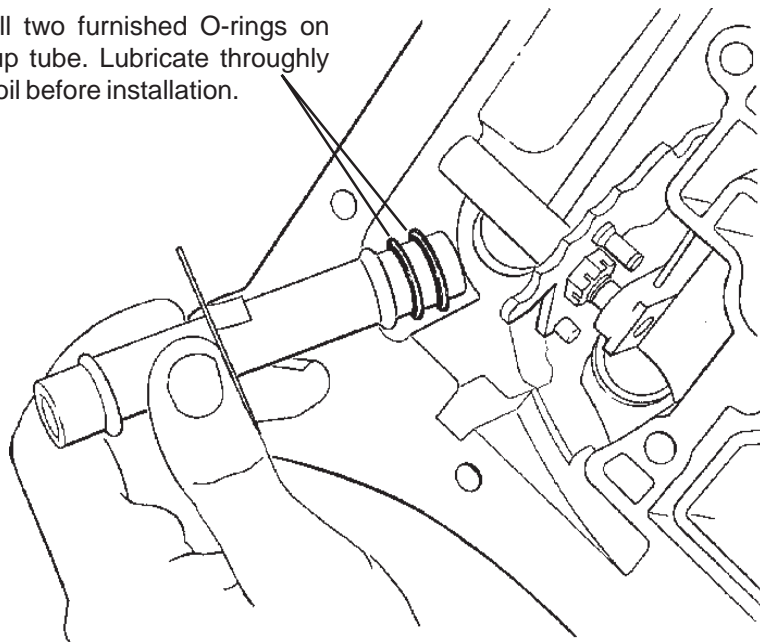

Figure 12
**STEP 15.** Install **two (2)** filter O-rings on filter pick-up tube (**See Fig. 12**). Lubricate O-rings with clean ATF then push pick-up tube and filter assembly up into transmission, install spacer (if present) and shoulder bolt then torque to 8-10 lb.ft. (11-13.6 Nm).